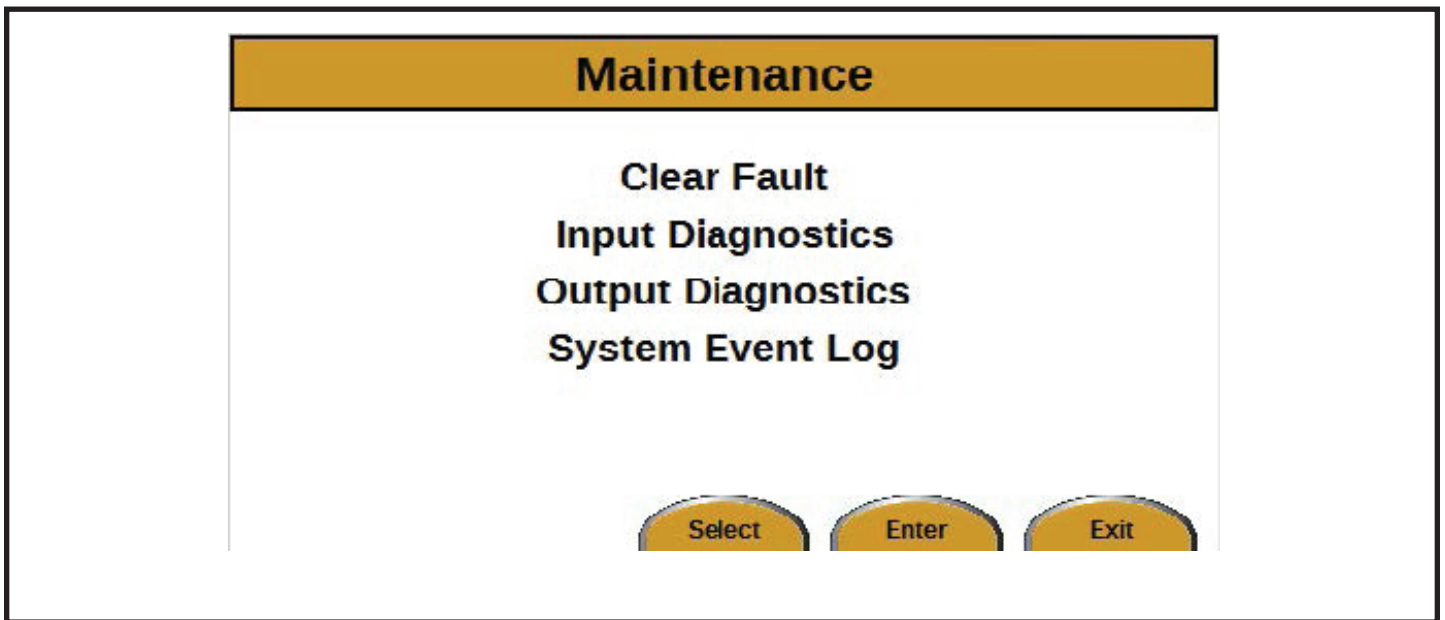

Figure 17
3. Press the Enter button. The Maintenance screen will appear (see *Figure 17*).